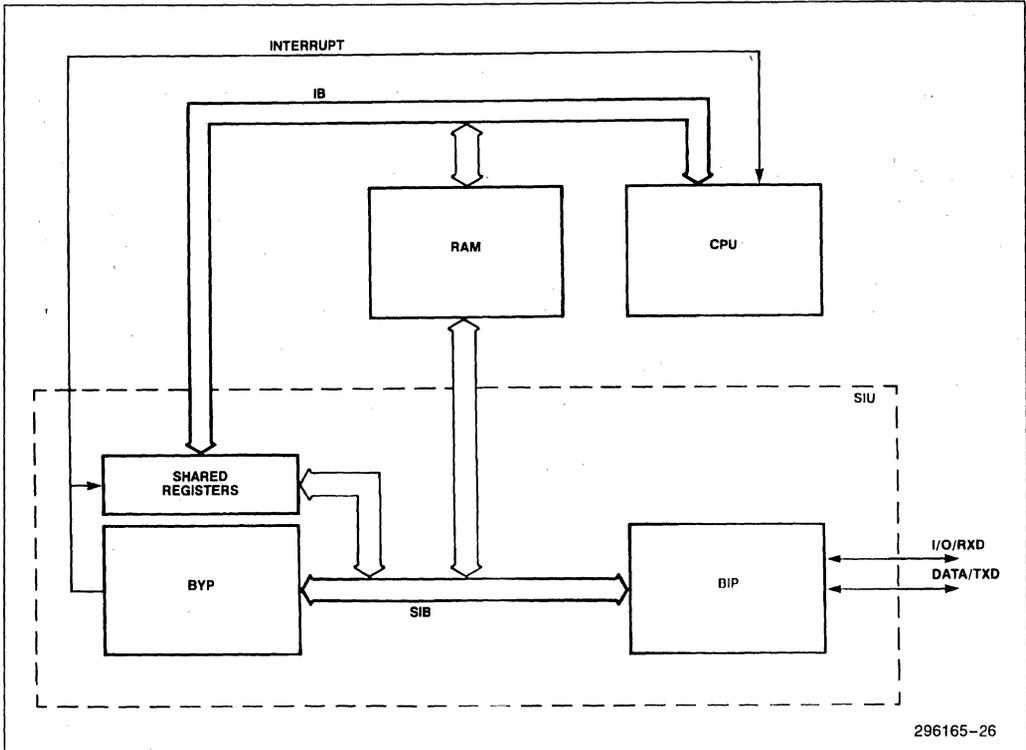

Figure 14. The Bit and Byte Processors
The SIU divides functionally into two sections—a bit processor (BIP) and a byte processor (BYP)—sharing some common timing and control logic. As shown in Figure 14, the BIP operates between the serial port pins and the SIU bus, and performs all functions necessary to transmit/receive a byte of data to/from the serial data stream. These operations include shifting, NRZI encoding/decoding, zero insertion/deletion, and FCS generation/checking. The BYP manipulates bytes of data to perform message formatting, and other transmitting and receiving functions. It operates between the SIU bus (SIB) and the 8044's internal bus (IB). The interface between the SIU and the CPU involves an interrupt and some locations in on-chip RAM space which are managed by the BYP.